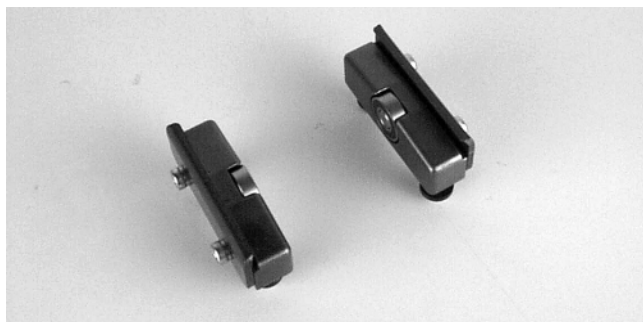

**Figure 10**
3. Attach clamp plates on each side of conveyor (Figure 10). Tighten the screws (W) to 9 Nm.